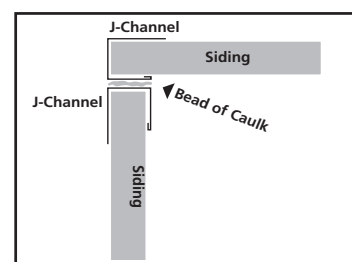

Figure 3.1.3
- ii. Option B: Double J-Channel (Figure 3.1.3)